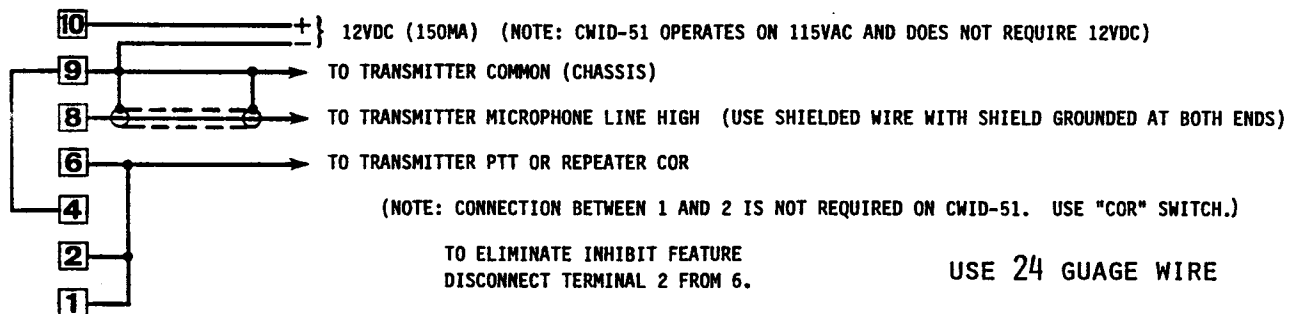

Figure 2. COR/PTT Mode With (Single) Inhibit. This is the Most Common Operational Mode. (For Transmitters and Repeaters With Positive Open-Circuit PTT.)
This chapter gives the hookup for the most common mode of CWID operation: COR/PTT MODE WITH SINGLE INHIBIT. The hookup described here is shown in Figure 2, page 5. This hookup is for transmitters and repeaters that have a positive open-circuit PTT and which key the transmitter by closing the PTT to ground. Other modes of operation and transmitters with negative open-circuit PTT are discussed in Chapters 3 and 4. It is assumed that the CWID has the desired station call sign programmed in the PROM (U1).
Step 4 - Hook up the wires following Figure 2 on page 5, but do not plug the terminal housing into the header on the CWID yet.
Figures 2 through 5 show the hookup for alternative means of operation. Figures 6 and 7 are for special situations described below.